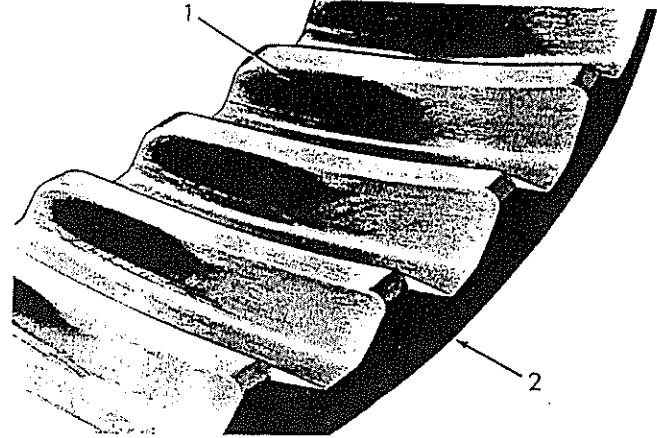
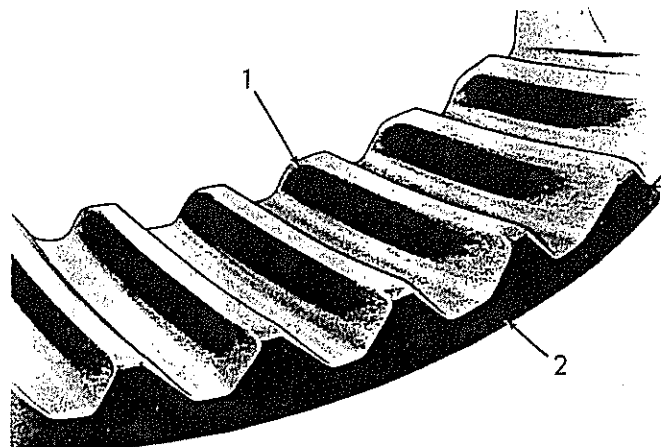

Fig. 24 Satisfactory Tooth Contact - No Load (T-31450)
Fig. 25 Satisfactory Tooth Contact - Gears Loaded (T-31449)
- d. Check tooth contact pattern. Paint approximately 12 bevel gear teeth with marking compound or bluing and turn transmission pinion; tooth contact pattern will show plainly on bevel gear teeth. Area of contact (no load) must favor toe of gear tooth, extend approximately 1/2 of tooth length toward heel, and be centered between top and bottom of tooth, Fig. 24. The area of contact when gears are loaded should increase in length as shown in Fig. 25.